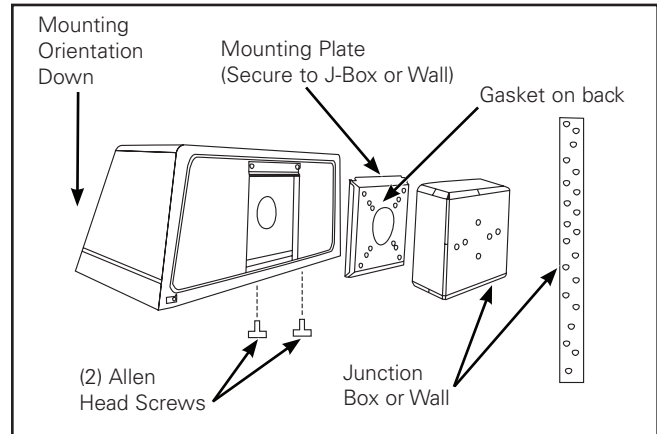

Figure 1.
Mounting (Figure 1.)
4. Mount the gasket applied mounting plate to the junction box or wall with the gasket away from the luminaire and secure to structure. (Figure 1.)